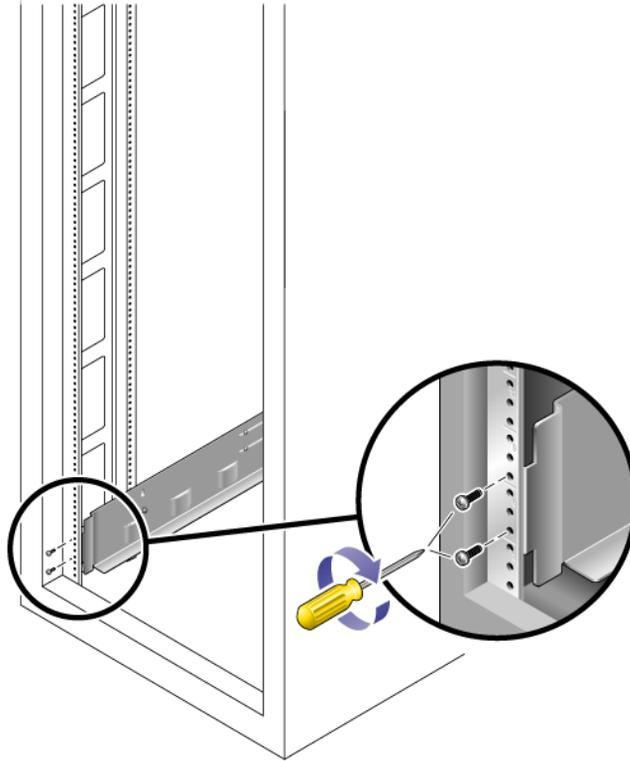

FIGURE 2-10 Securing the Rail to the Front of the Cabinet
5. Use the #2 Phillips screwdriver to insert and tighten two 8-32 screws to secure the rail to the front of the cabinet (FIGURE 2-10).